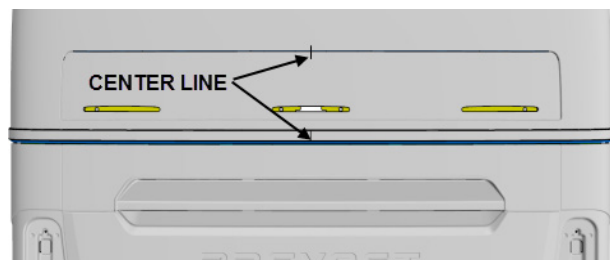

FIGURE 43
3. To ease installation of the drip edges, draw a reference lines on the vehicle body indicating the center of the rear end so that the drip edges will be installed perfectly centered (FIGURE 43). You may use the center high mounted stop light and the SS molding as reference to find the center of the rear end.